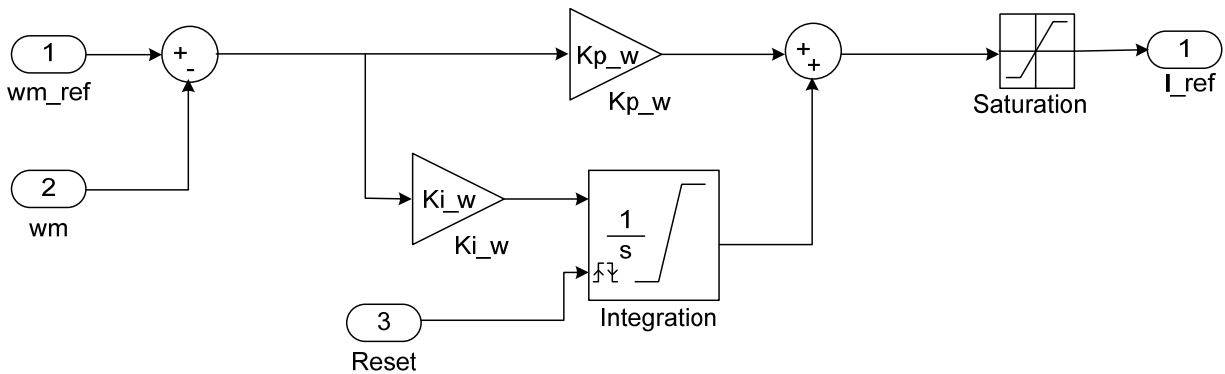

Figure 5.6: Speed Controller
- b) Modify the Speed Control block as shown in Fig. 5.6. Change the integrator block parameters by double clicking on it and changing its external reset to either. Open the Current Controller and change its integrator's reset as was done in the Speed Control. Connect the reset inputs of speed controller and current controller as shown in Fig. 5.6. These changes allow the integrators to start up correctly in the real-time environment.